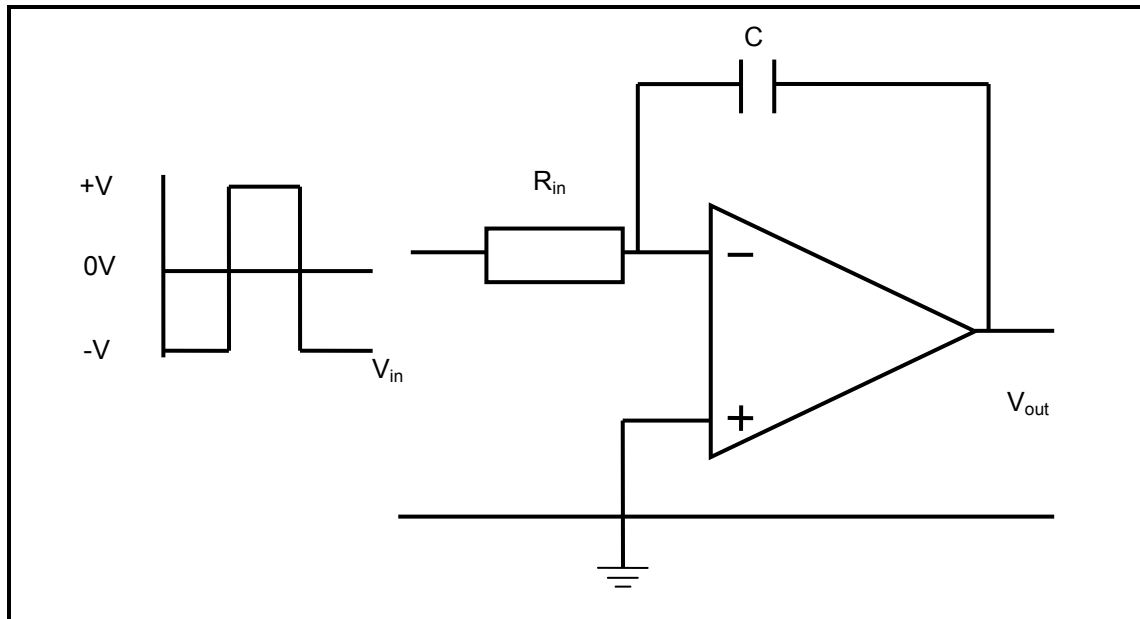

FIGURE 7.4: INTEGRATOR OPERATIONAL AMPLIFIER
- 7.10 FIGURE 7.4 is an operational amplifier connected in the configuration of an integrator circuit.